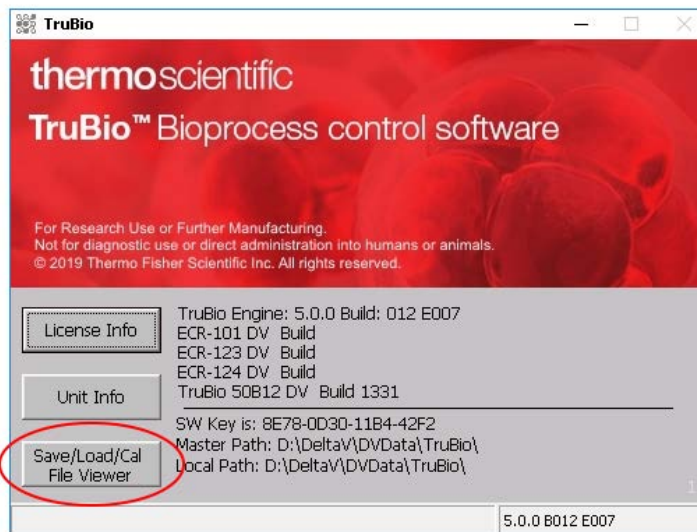

Figure 2.22. “Save/Load/Cal File Viewer” button.
2. When the TruBio screen appears, click **Save/Load/Cal File Viewer** on the lower left (Figure 2.22).